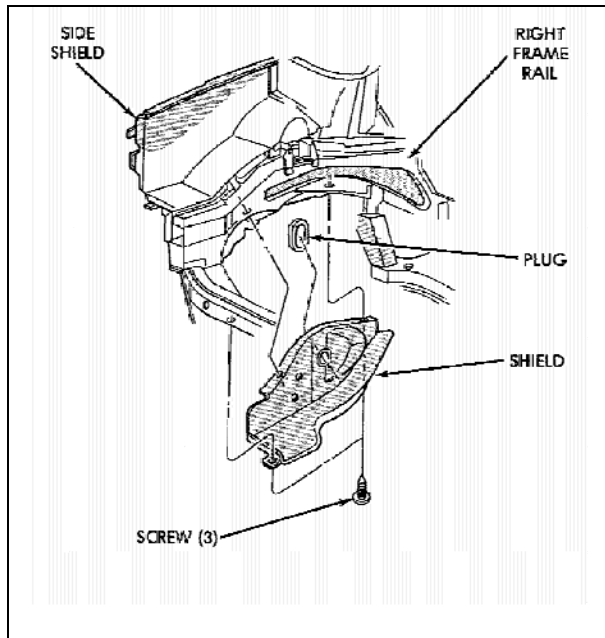

Fig 1 - Splash shield and access plug
- a) Remove the right inner splash shield and the right engine-mount bolt access plug. *See Figure 1*